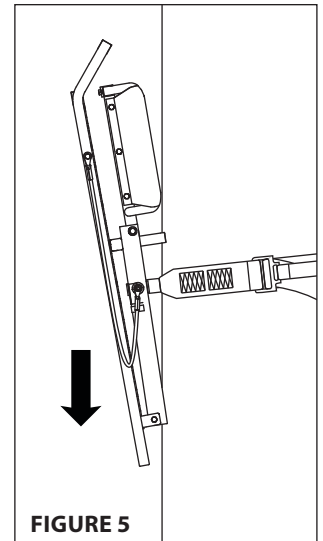

FIGURE 5
d. While platform is still folded up, push treestand in a downward direction to further tighten strap. **SEE FIGURE 5.**